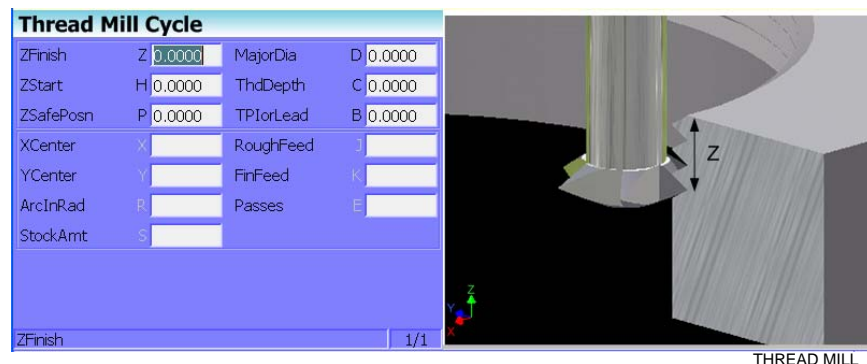

Figure 4-9, Thread Mill Cycle Graphic Menu
2. Select **ThreadMill** from the pop-up menu, and press **ENTER** to display the Thread Mill Cycle Graphic Menu. Refer to **Figure 4-9**.